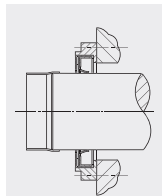

Figure 13-3
5. Push the oil seal seat and oil seal until the final installation position as shown in Figure 13-3, then the mounting sleeve will be ejected.